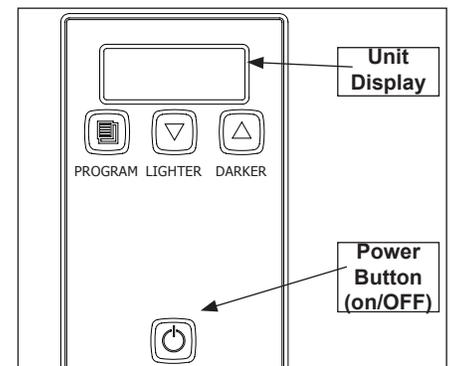

Figure 2. Control Panel
1. Press and release the **Power** button to turn the toaster on. Allow the toaster to warm up until **USE** appears in the display. See Figure 2.
The light/dark value (Figure 2) can be adjusted when the unit is displaying **USE**. To adjust the light/dark value: